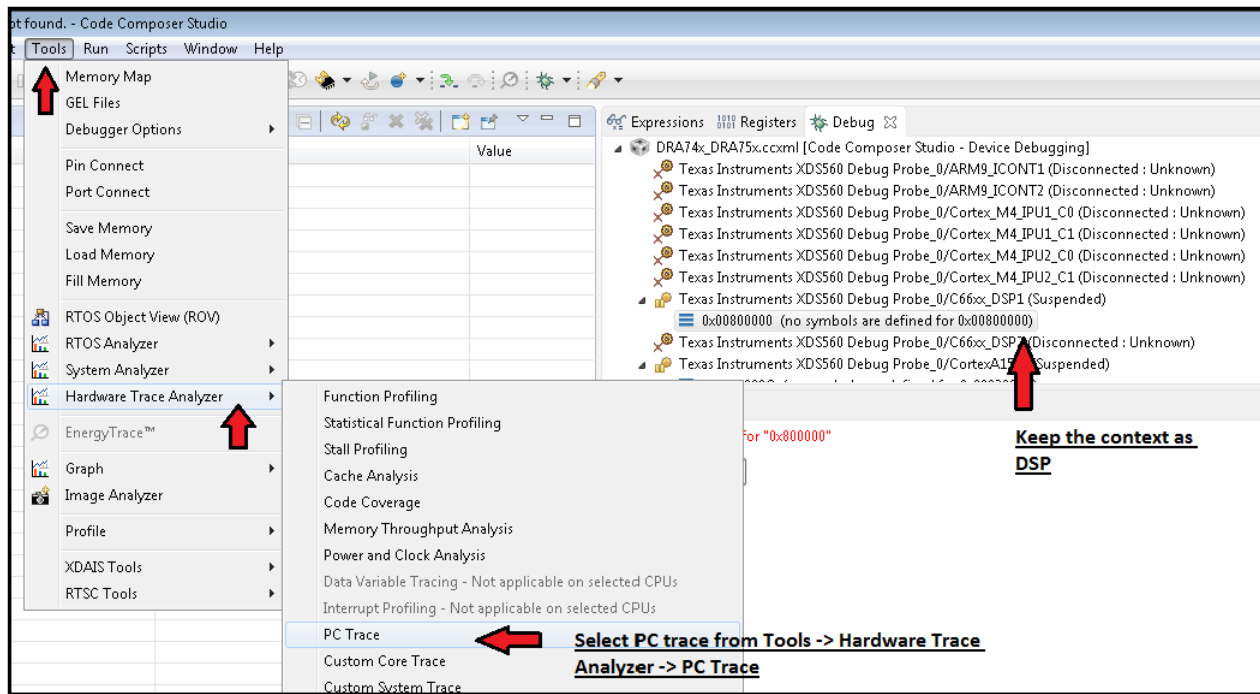

Figure 24. Steps to Enable the C66x DSP PC Trace
1. To start the DSP core trace, click on Tools → Hardware Trace Analyzer → PC trace (see Figure 24).